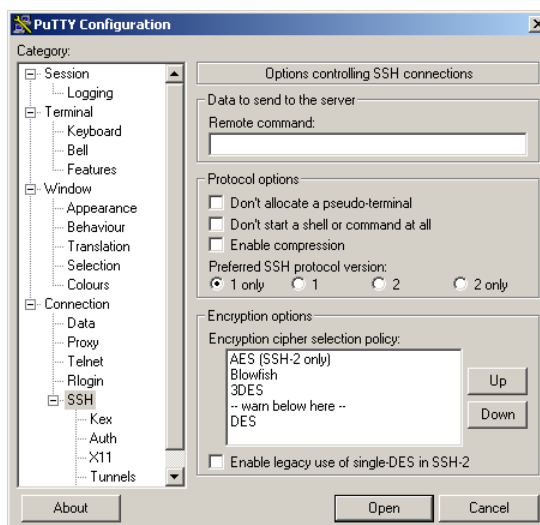

Figure 29. Example Configuration - SSH Connection Screen
4. Select **SSH** in the Category column. The SSH Connection screen opens (see Figure 29).